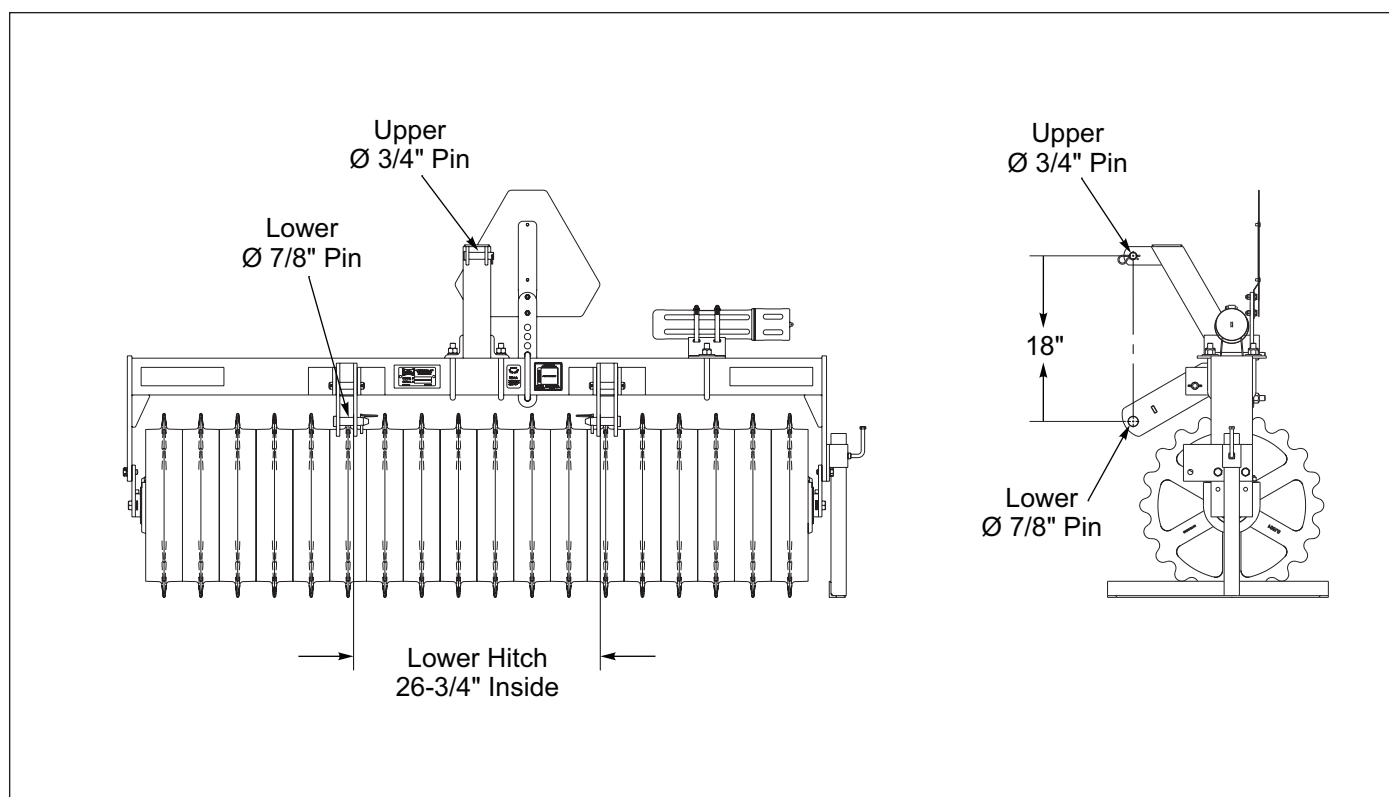

Figure 3-1: Category 3-PT Hitch, PP5-7
1. 3-PT Hitch Pulverizer is designed to be pulled by a Tractor equipped with a 3-PT Hitch Category based on Model. **See Figures 3-1 and 3-2.** Be sure Tractor's Hitch Capacity is not exceeded by the Laden Mass of the Pulverizer. **Refer to Tractor Operator's Manual.**
1. Attach the Pulverizer to the Tractor with the appropriate size pins and bushings based on the 3-PT Hitch Category being used. **See Figures 3-1 and 3-2.**